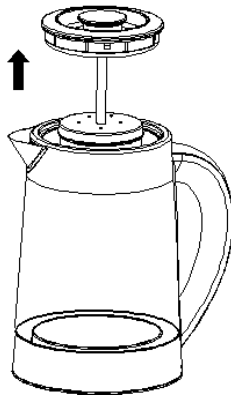
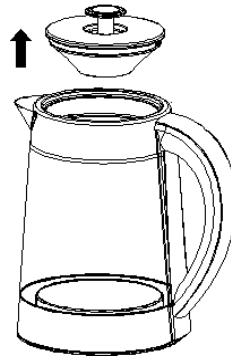

Fig. 6
Fig. 7
1. For burning the water, press the lid opening button shown in Fig. 6; the lid will open if this button bounces and then you can remove it. If cooking the tea, you can directly remove the lid (shown in Fig. 7) to place the tea into the tea bag and then add the appropriate water to the level between MIN and MAX shown by the kettle water gauge.